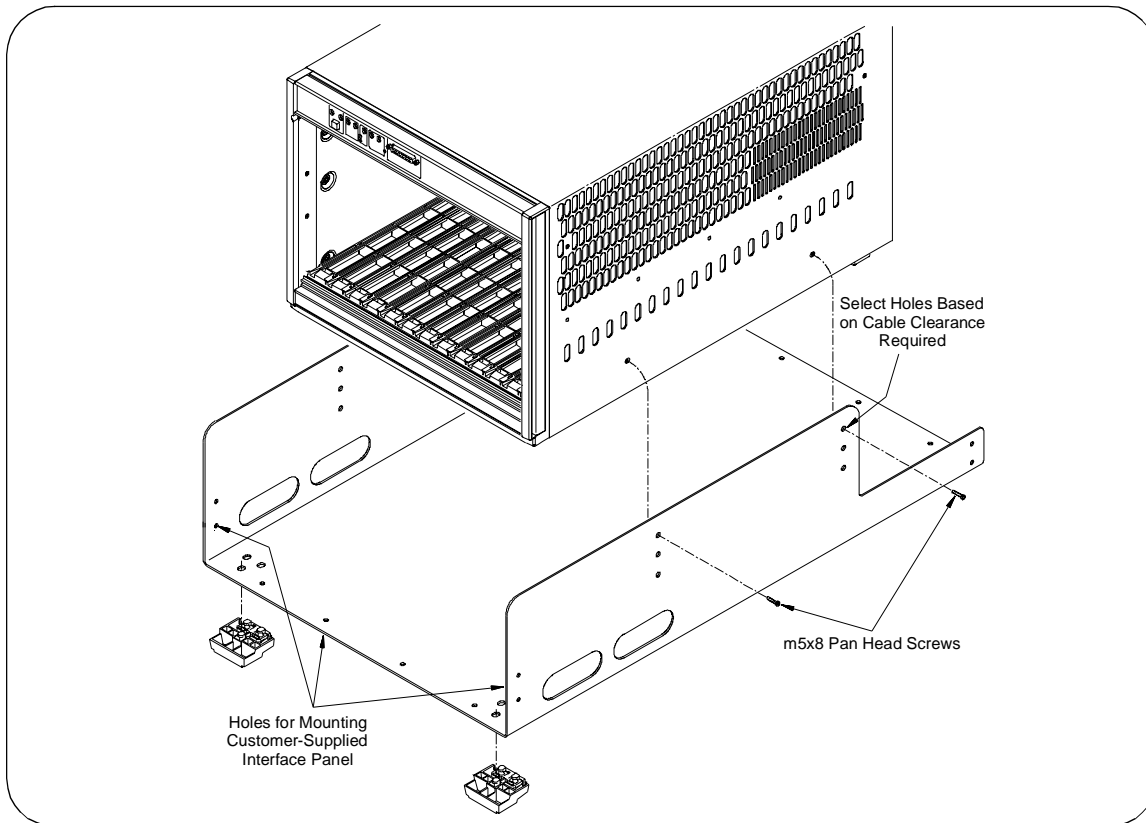

Figure 11 . Installing the Cable Tray.
2. Attach the cable tray to the mainframe as shown in Figure 11 using four 10-32 x 0.312 pan head screws. Select the tray holes based on the amount of cable clearance required.